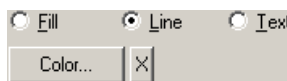

Figure 8-9. The Color area of the Quick Edit dialog.
2. On the Quick Edit dialog, select the Line option immediately above the Color area. The Color area of the Quick Edit dialog is shown in Figure 8-9.
2. On the Quick Edit dialog, select the Line option immediately above the Color area. Figure 8-9 shows the Color area of the Quick Edit dialog.
2. On the Quick Edit dialog, select the Fill option immediately above the Color area. Figure 8-9 shows the Color area of the Quick Edit dialog.